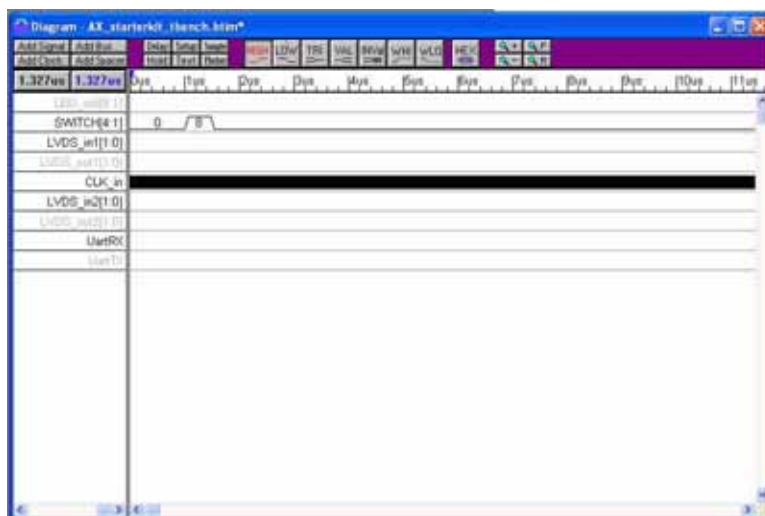

Figure 3-16. Waveform
- Following the instructions on the previous pages, create the input signals for input SWITCH[4:1], as described in Table 3-1 to create the waveform shown in Figure 3-16.